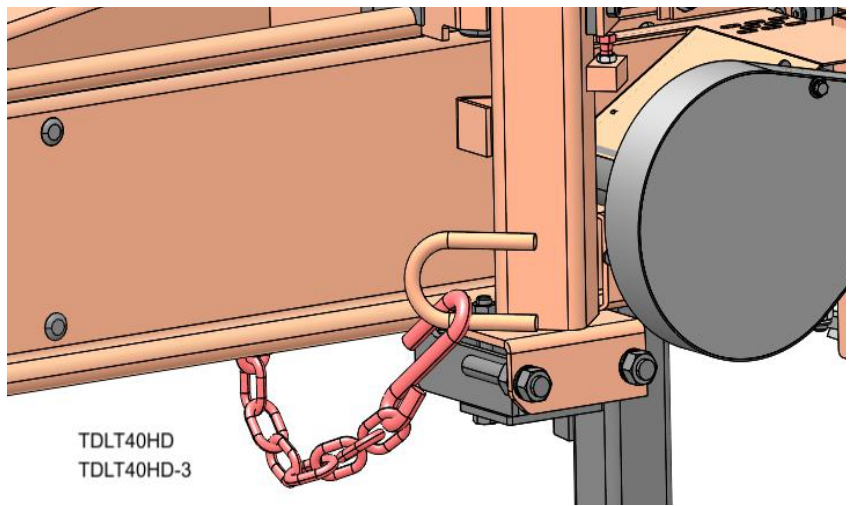

FIG. 4-11
15. Hook the carriage safety chain (shown in red) located at the bottom of the carriage to the bracket at the bottom of the mast. See FIG. 4-11.